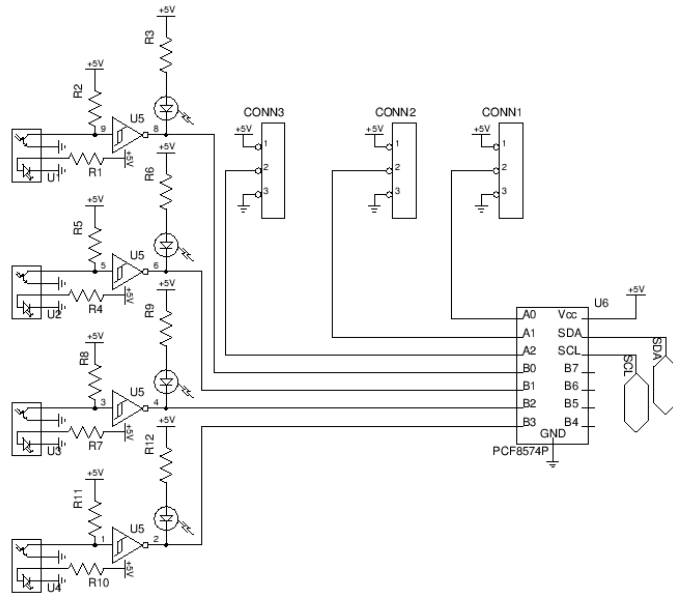
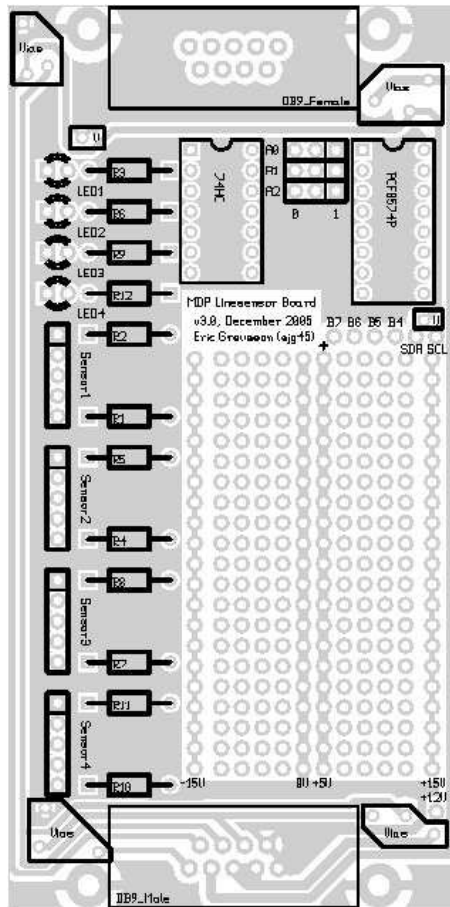

Figure 1: Line Sensor PCB Circuit
Figure 2: Line Sensor PCB Layout
1. **PCB1** - Contains an area customised for the construction of 4 line following circuits, together with connectors for you to plug in the IR emitter/detector assemblies. There is also some area for the construction of other circuits. **You are strongly advised to design your line following circuits (see Figure 1) and to construct them on this area of PCB1.** You should aim to achieve this by the end of week 2 at the latest. This will facilitate a major part of the software and mechanical tasks, namely getting the AGV to navigate the playing area.
On PCB1 there is an area of the board devoted to the 4 line following circuits. By looking at the circuit diagram for the line following circuits (Figure 1 and also the proposed circuit layout (Figure 2) identify and colour in on a photocopy of the track layout of PCB1 the 0V and 5V tracks on the underside of PCB1. Get hold of the data sheet on the Hex Schmitt inverter chip (look in the electrical pages of the IDP website), and by observing the tracks on the underside of PCB1, identify and write down the input and output pin numbers of the Hex Schmitt inverter chip corresponding to each of the 4 line sensor circuits.